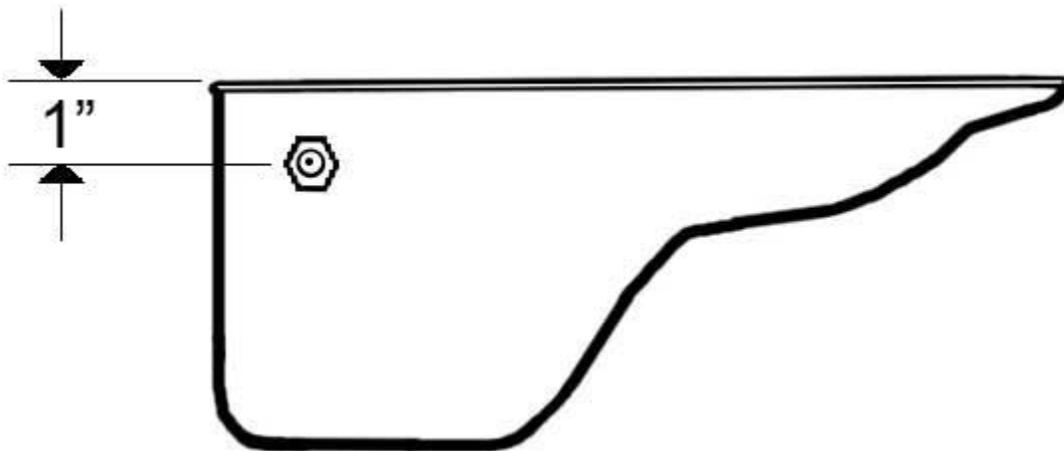

Figure 4
4. Remove the oil pan and weld -8AN fitting to the oil pan, **Figure 4**.